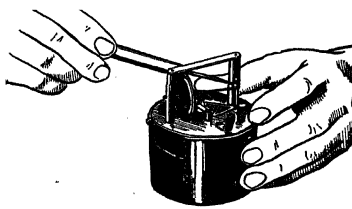

FIG. 16.—Correcting the adjustment.
**If Adjustment Is Needed.**—If the hand did not come to the highest scale mark within the limit, *the range is not right*. If it came to the mark within the limit but was outside the limits at points in the middle of the scale, *the range is right but the adjustment is wrong*. The range is changed by changing the length of the adjustment arm A. To do this, take out the adjustment screw part way (Fig. 16). To *increase the range* make the arm *shorter*; to *decrease it*, make the arm *longer*.